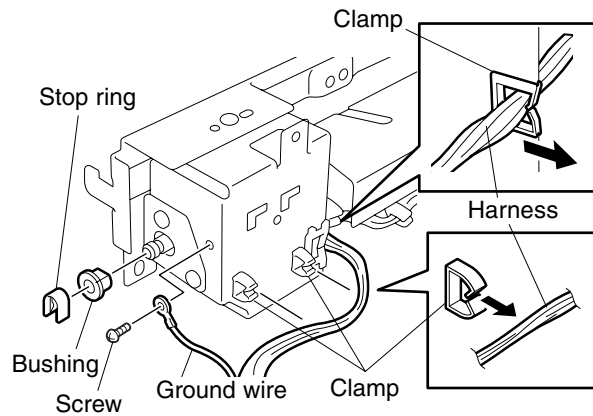

Fig. 6-15
- Remove SFB feed roller assembly. (See Fig. 6-15 to 6-16-1)